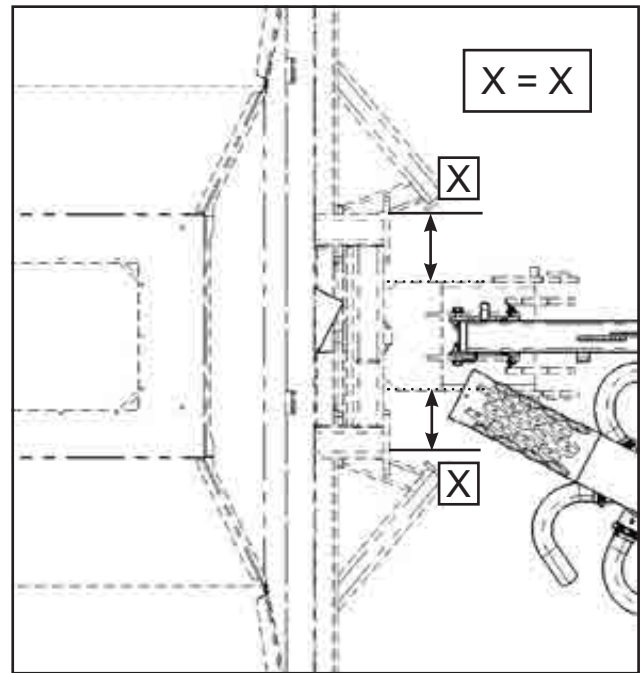

Figure 1.9 - Front Hitch - Centered
1. Verify that the front hitch is centered. Check that measurements labelled "X" in *Figure 1.9* are equal.